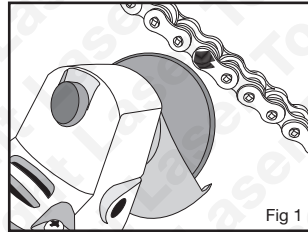

Fig 1
- Using an angle grinder (or a file), grind off the top of one of the pins on the chosen link **Fig. 1**.